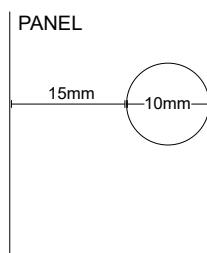

fig.1
1. Drill a 10mm hole in the panel with centre 15mm from the edge. fig.1